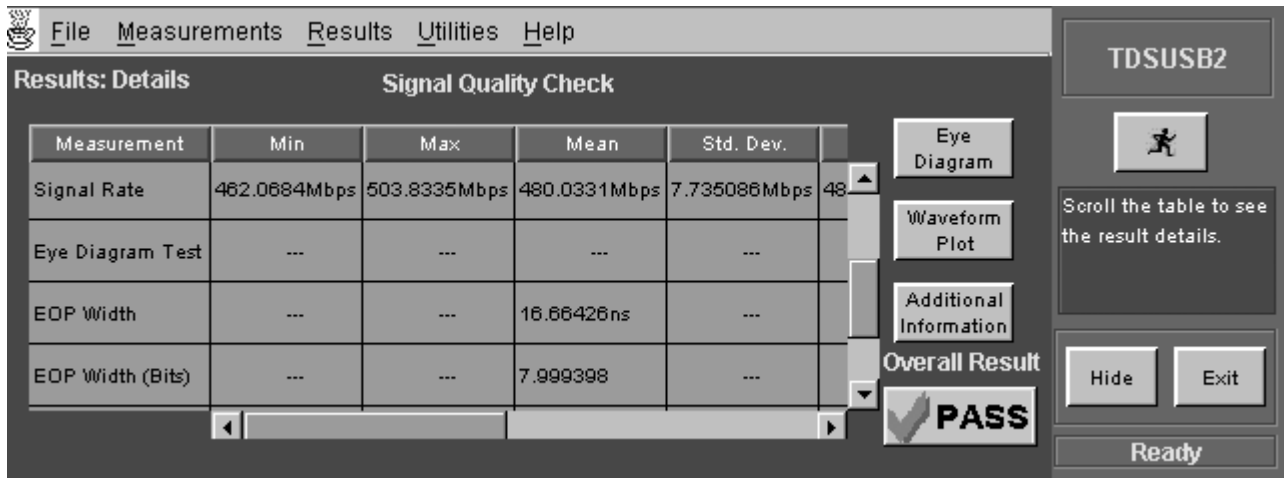

Figure 2-78: Detailed results for high speed signal quality tests
- From the application menu, select Results> Details. Figure 2-78 shows the detailed results for high speed signal quality tests.